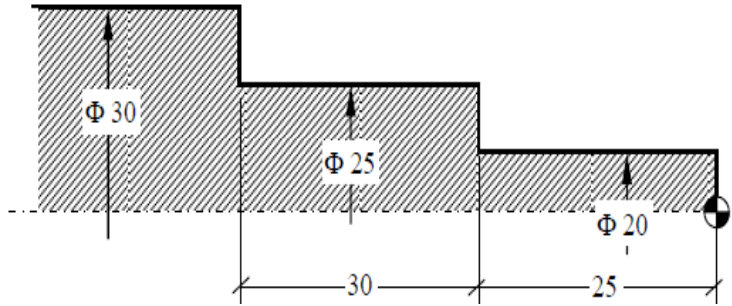
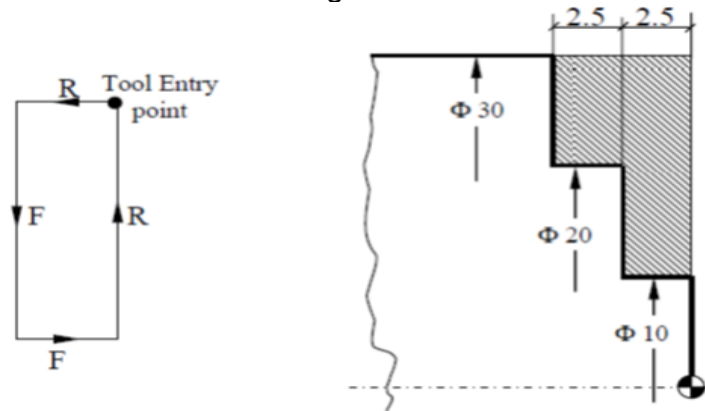

Figure-1
Figure-2
13. Write CNC Program to machine the component shown in figure-1 using G90 and Figure-2 using G94 Cycles (C.O.No.4) [Application]